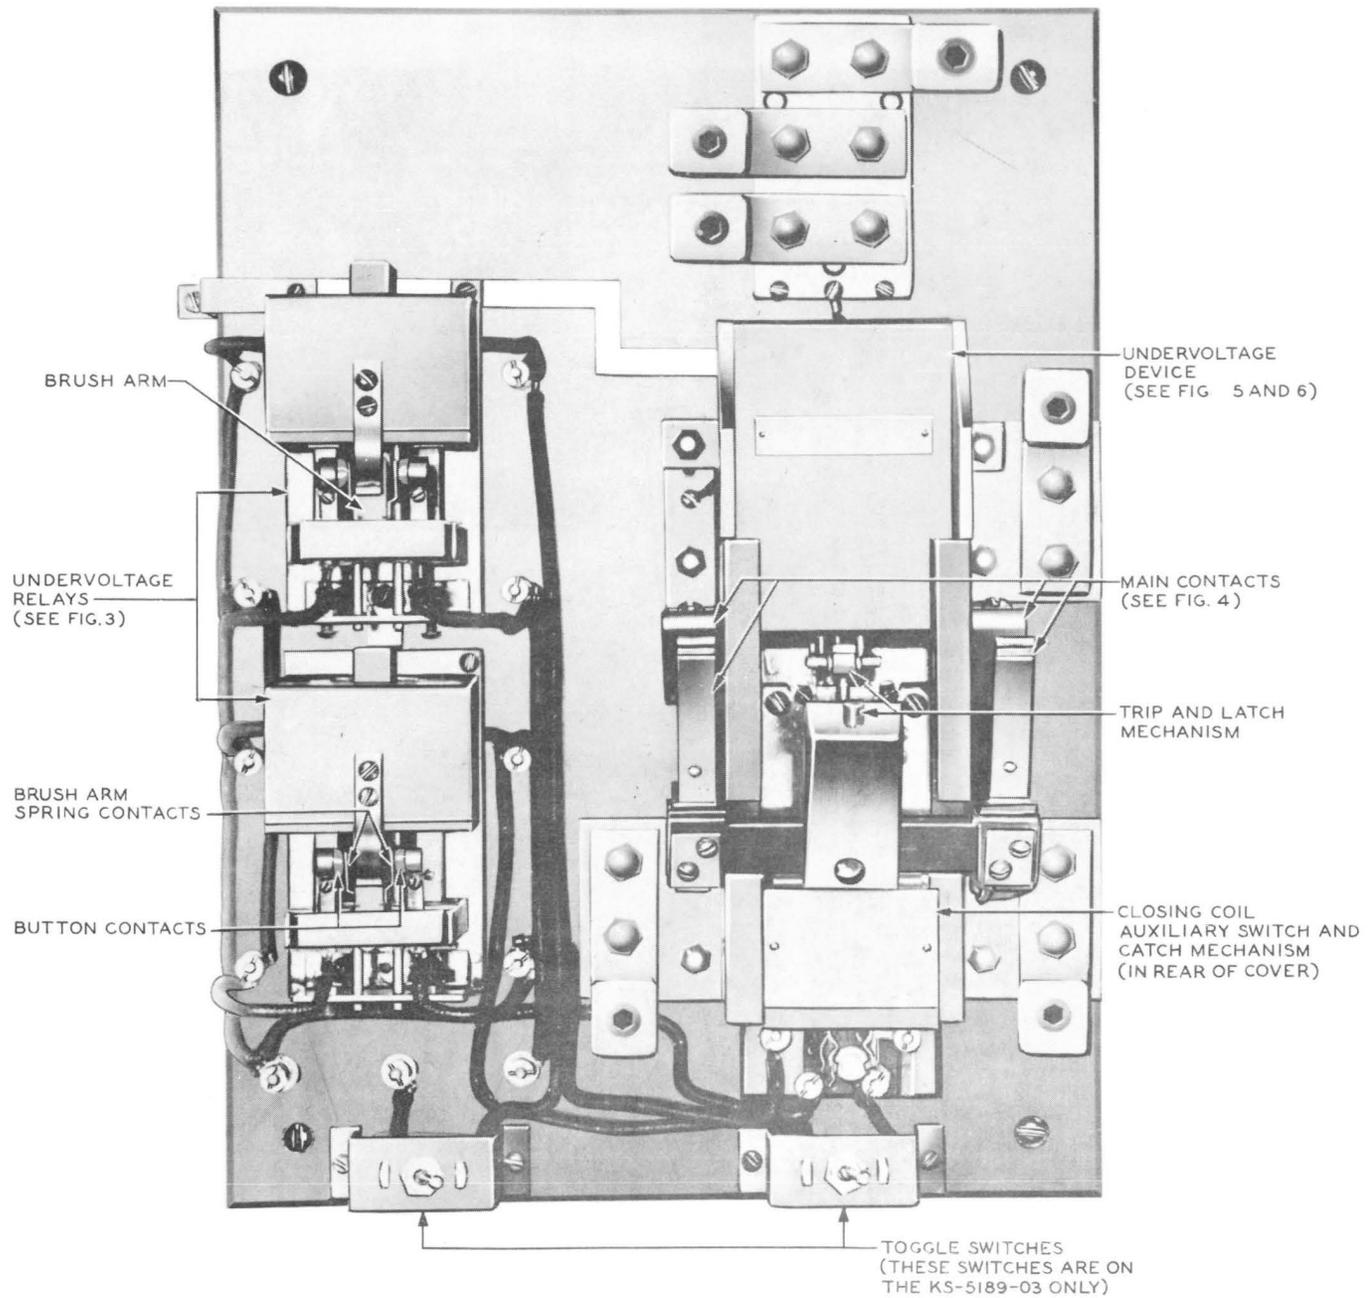

Fig. 1—Emergency Lighting Relay Switch for 3-Phase Service (Without Cabinet Old Version)
1.01 This section covers emergency lighting relay switches per KS-5189, KS-5189-01, KS-5189-02, and KS-5189-03. (See Fig. 1 and 2.)